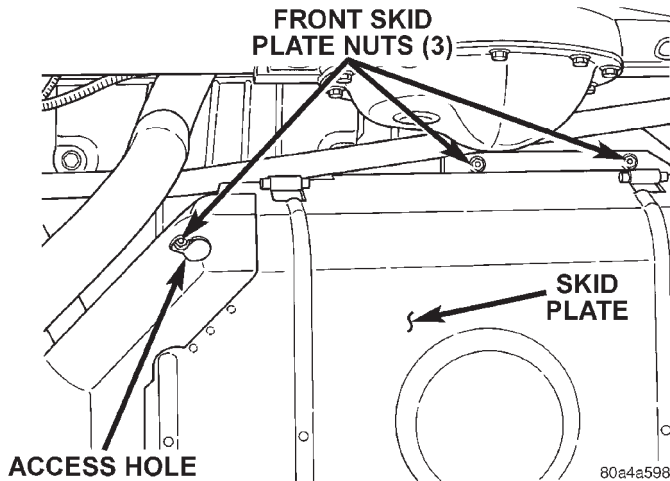

Fig. 37 Fuel Tank Mounting Nuts—Front
- (10) The fuel tank and skid plate are removed as an assembly. Centrally position a transmission jack (or equivalent lifting device) under skid plate/fuel tank assembly. Secure tank assembly to jack.
- (11) Remove three skid plate-to-body nuts at front of tank (Fig. 37). Remove one of the nuts through access hole on skid plate (Fig. 37).